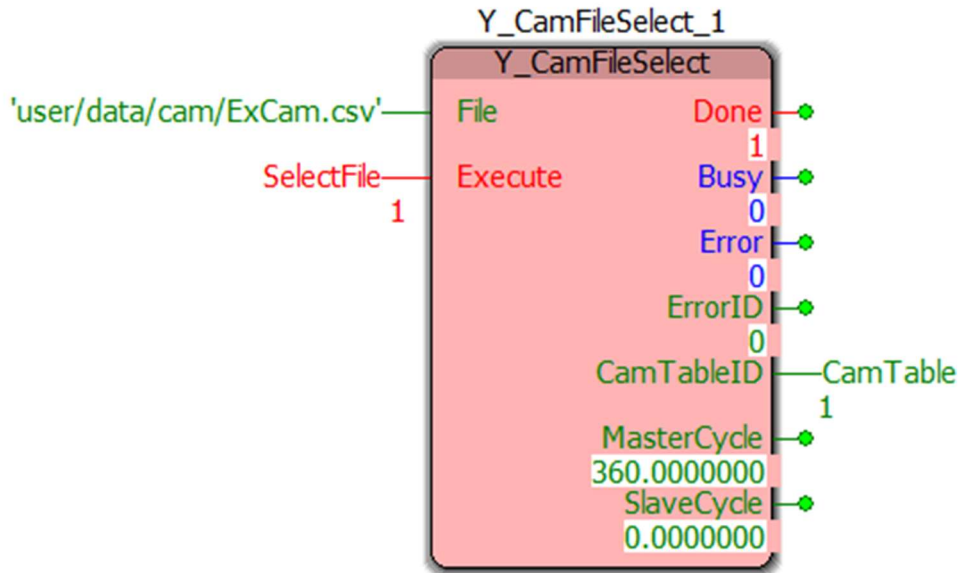

Figure 25: CamFileSelect Button Executed
- Execute the CamFileSelect by overwriting the SelectFile Variable and it should output a CamTableID of 1 as seen in Figure 25.